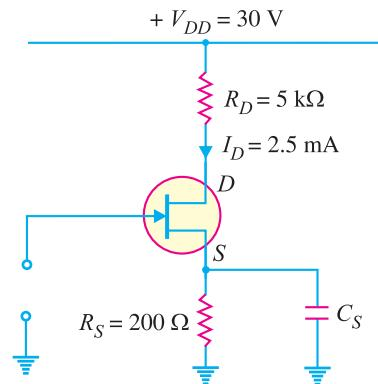

Fig. 19.24
**Example 19.18.** In the JFET circuit shown in Fig. 19.24, find (i)  $V_{DS}$  and (ii)  $V_{GS}$ .